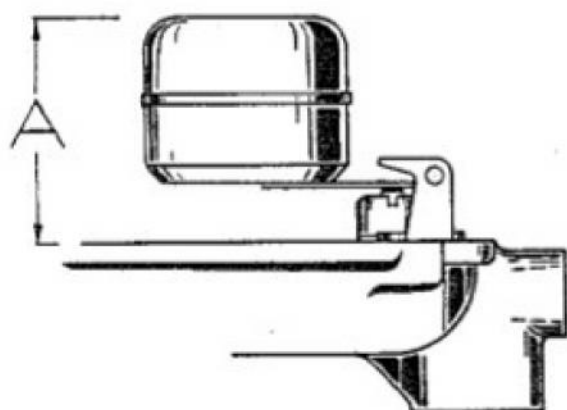

Fig. 38. Float Level Adjustment Diagram
(14) Set throttle stop-screw to hold throttle slightly open, as a preliminary adjustment.
(15) Install stop-lever assembly on the shaft so that the stop lever is resting against the stop pin when the throttle plate is wide open (straight up and down in the barrel).
(16) Drill and pin stop-lever hub to shaft, using a No. 45 drill and CT63-2 taper pin.
(17) Replace economizer jet and new gasket, using a small screwdriver (one-quarter-inch blade).
(18) Replace idling jet (6), using small screwdriver ($\frac{3}{16}$ -inch blade). No gasket is required.
(19) Place main venturi (1) in position with locating groove on the locating pin.
(20) Place secondary venturi (3) in slots provided in main venturi.
(21) Replace fuel valve seat and new gasket, using C161-85 service tool.
(22) Replace fuel valve needle.
(23) Replace float assembly and float axle, using the handle end of a screwdriver to drive the float axle into the slotted end of the float-hinge bracket.
(24) Check position of float assembly for correct fuel level. As shown in Figure 38, the A dimension should be $1\frac{3}{4}$ inches plus or minus $\frac{1}{64}$ inch. Float should move freely on its axle.
(25) Place a new bowl-to-body gasket in position on the throttle body. Be sure that the economizer channel in throttle body coincides with hole in gasket.
(26) Place bowl assembly in position on the throttle body, being careful to avoid damaging the float.